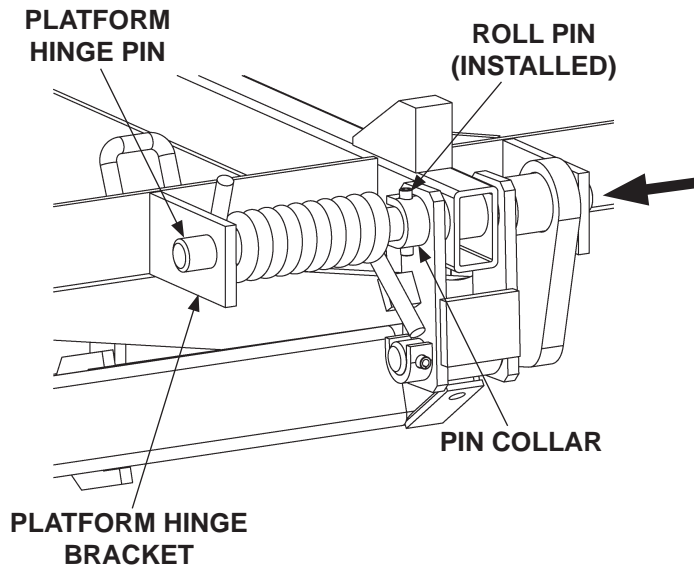

FIG. 22-1
6. Drive platform hinge pin inboard to correct position through the platform hinge bracket (**FIG. 22-1**). Line up the hole in the platform hinge pin with the hole in the pin collar. Install the roll pin through the pin collar until roll pin protrudes equally from both sides of the collar (**FIG. 22-1**).